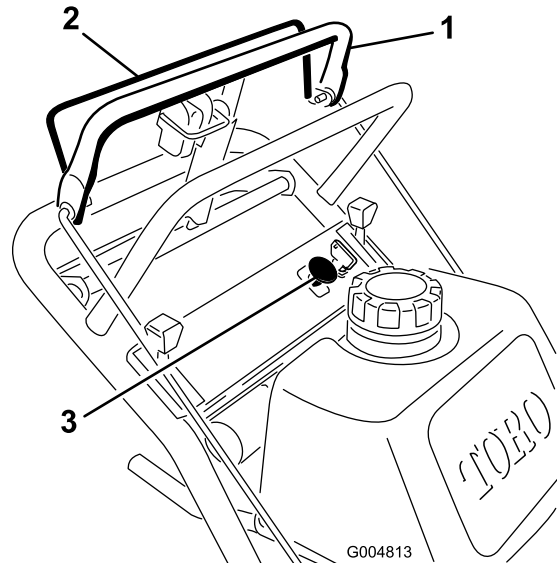

Figure 17
1. Release the upper control bar to stop the machine (Figure 17).
2. To engage blade, squeeze blade control bail against the upper control bar (Figure 17).
Release the blade control bail to disengage the blades (Figure 17).